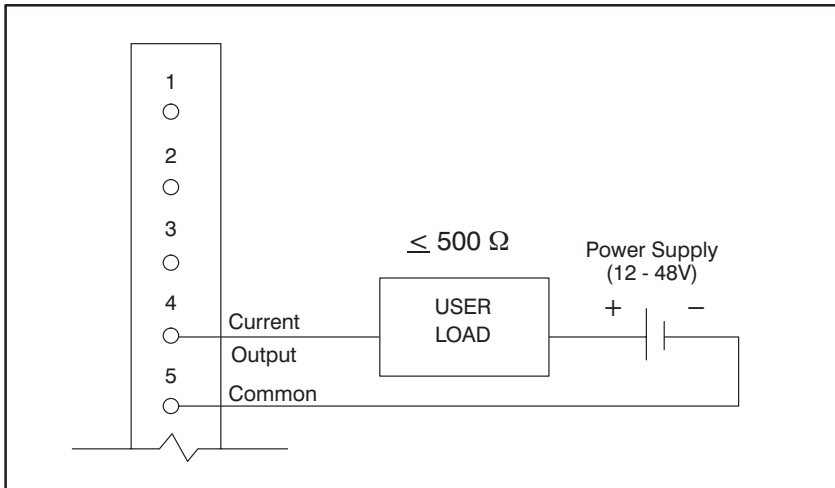

Figure 3.2 - Typical Field Connections for 4-20 ma Current Output
- Figure 3.2 - Typical Field Connections for 4-20 ma Current Output ..... 3-2